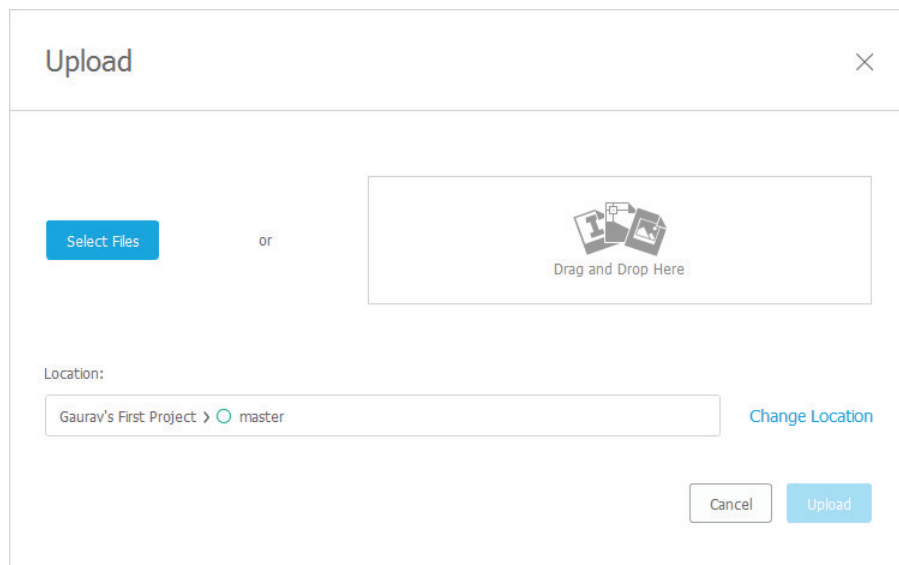

Figure-81. Upload file Data panel
- Click on **Upload** button from **Data Panel**. The **Upload** dialog box will be displayed; refer to Figure-81. Click on the Select Files button or drag & drop the files to be uploaded.